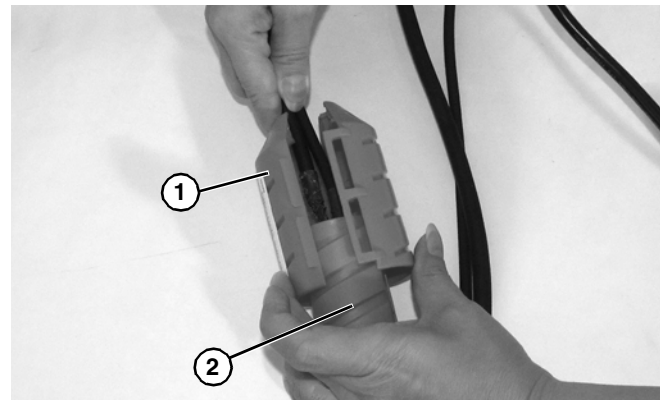

Figure 19
8. Install outer cord cover (**Figure 19, item 1**) over inner cord cover (**Figure 19, item 2**).